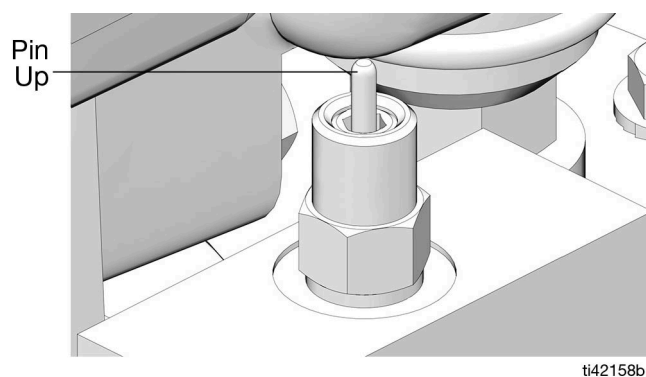

FIG. 6
4. Remove the dust cover (V) from the fill stud (M).
5. Connect the supply hose (J) between the remote filling stations pump (H) and the fill stud (M) port marked with an 1.
6. Start the remote filling station pump (H).
7. When the reservoir (E) is filled:
- the remote filling station pump (H) stalls (dead-heads)
- the auto-fill shut off pin pops up as shown in FIG. 6
Verify that the auto-fill shut off valve pin is in the down position. See FIG. 6, page 7.